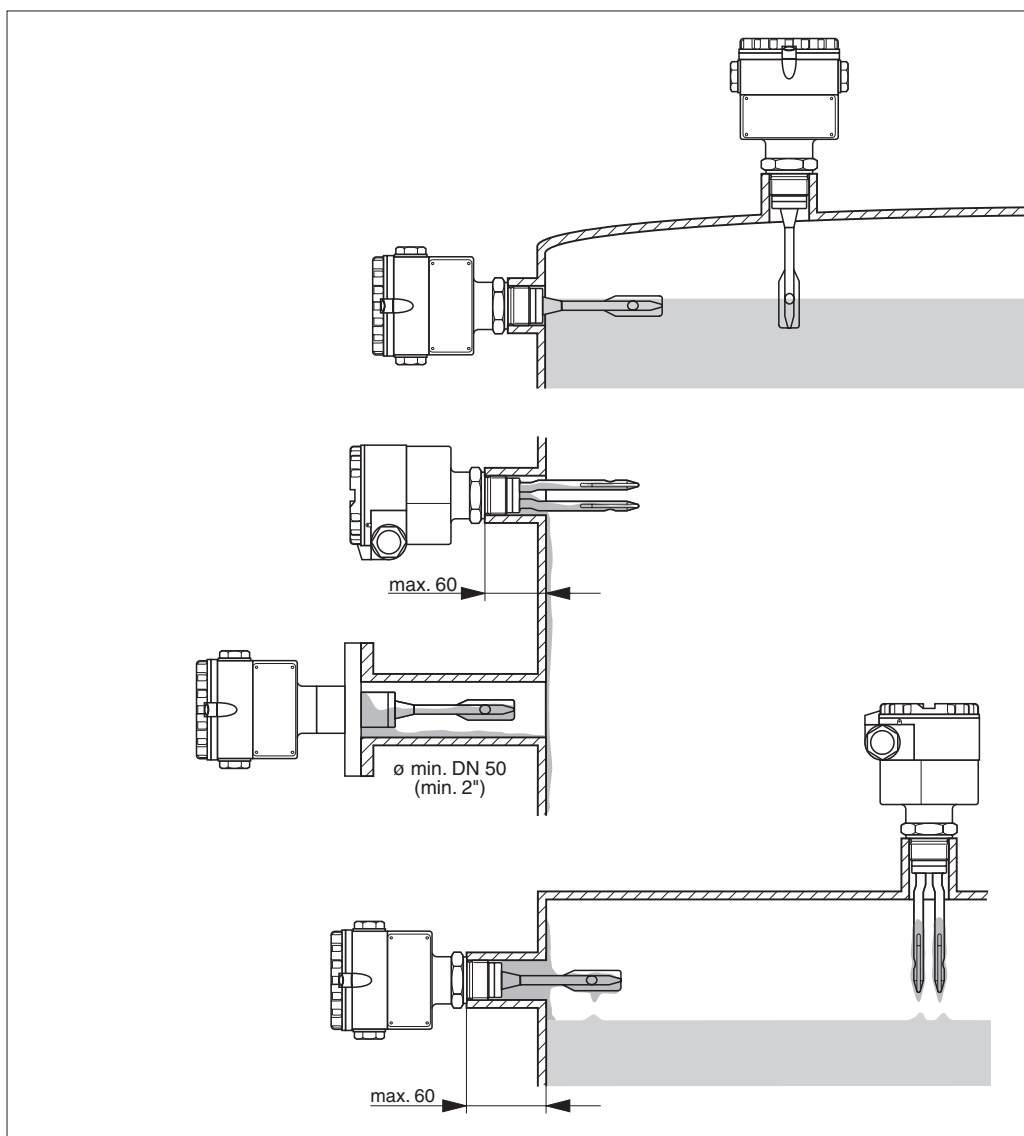

Fig. 4
For other process conditions, e.g. higher viscosity or build-up, the recommended mounting position is shown in Figs. 4 and 5.
- highly viscous liquids quickly flow off the fork (Fig. 4)